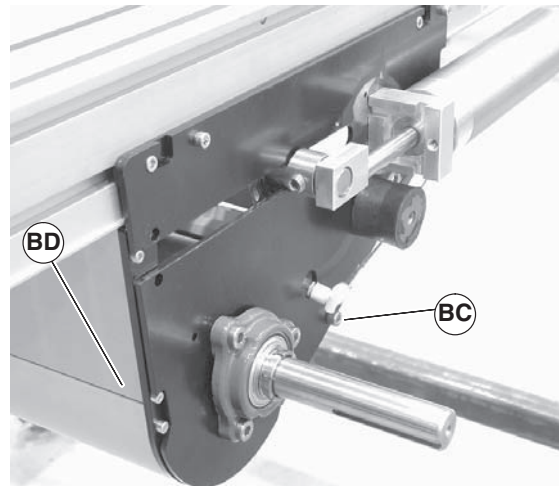
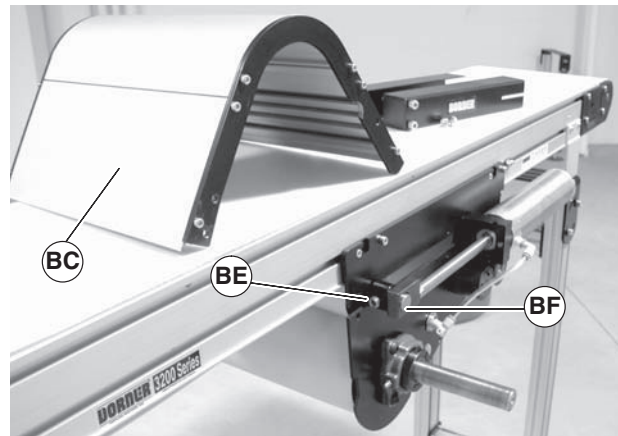
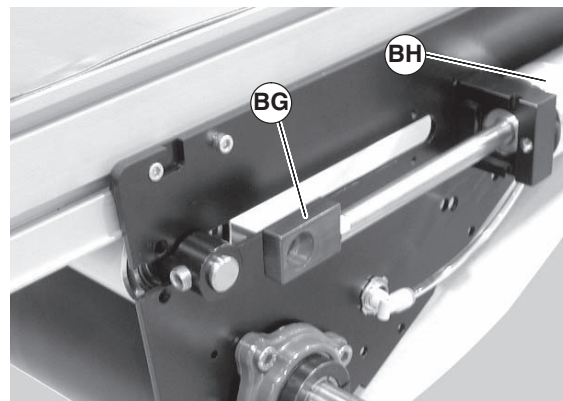

Figure 82
Figure 83
Figure 84
3. Temporarily support the tensioning roller guard (Figure 82, item BD). Remove screws (BC) on both sides of center drive and remove tensioning roller guard (Figure 82, item BD) and (Figure 83, item BD).
4. Loosen tensioning roller set screws (Figure 83, item BE) on one side of center drive.
5. Push shaft (Figure 82, item BF) through block, slide block (Figure 84, item BG) towards air cylinder (BH).